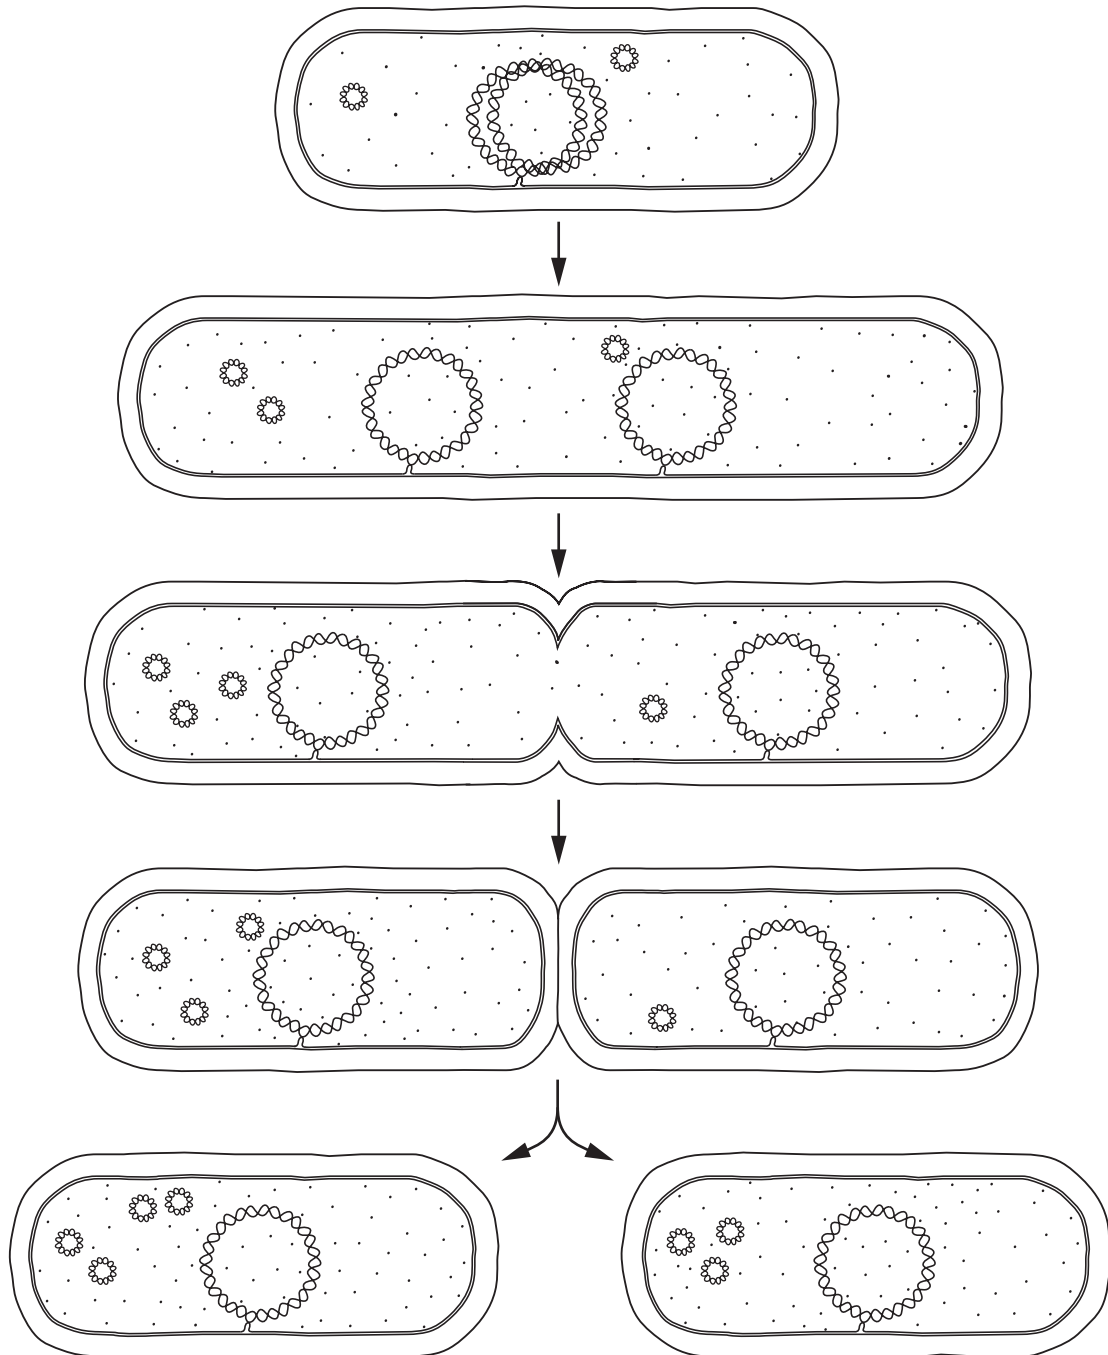

Fig. 2.1
Fig. 2.1 represents changes that occur in the growth and reproduction of a bacterial cell that possesses plasmids. The plasmids carry the genes, *amp* and *strep*, which code for antibiotic resistance to ampicillin and streptomycin respectively.
Describe the sequence of events occurring in Fig. 2.1.
- (c) Mitosis and cell division in an animal cell differ from the sequence of events occurring in Fig. 2.1.